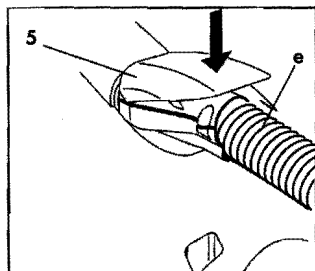

Fig. 9
- Flick the accessory socket door (5) wide open and fit the quick connection of the hose (e) to the socket on the front of the appliance. Press the connection in as far as it will go.
- Close the accessory socket door (5) so that it rests on the body of the quick connection and check that the two elements are properly engaged. (Fig. 9)